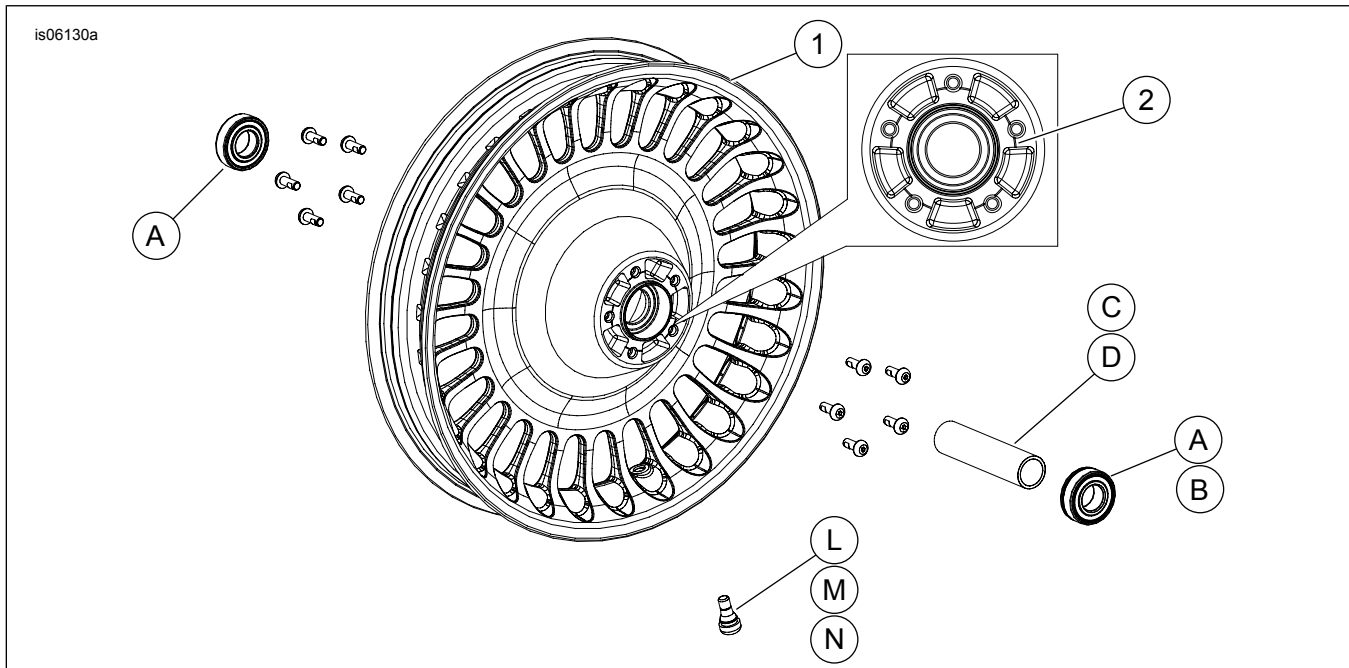

Figure 1. Service Parts: Front 28-Spoke Wheel (17 inch shown)
See Figure 1 and the Service Parts Tables.
2. See Figure 1. Install valve stem assembly (N) on wheel. Refer to the service manual.